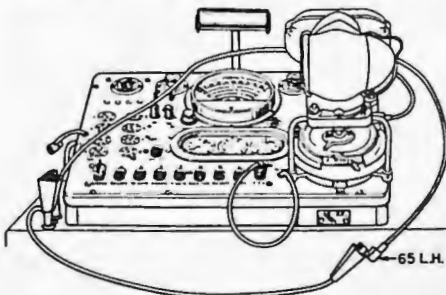

Fig. 15
- 65** Connect the positive high tension lead to lead for left hand coil from the special cap on the distributor (Fig. 15).